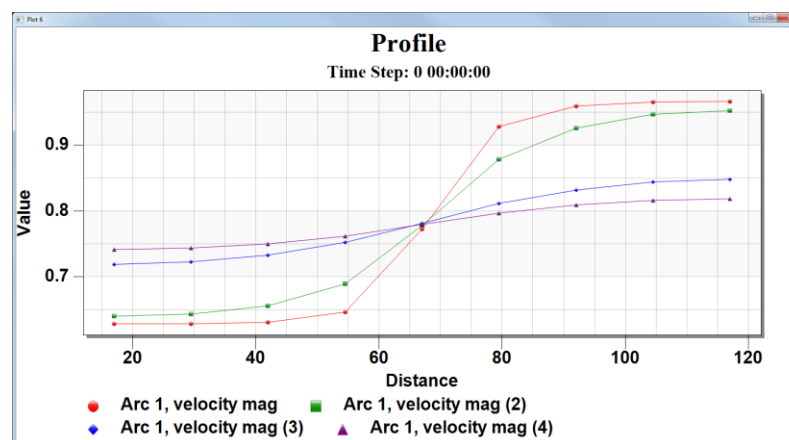

Figure 14 Solution plots for various eddy viscosities
11. Select “ velocity mag”, “ velocity mag (2)”, “ velocity mag (3)”, and “ velocity mag (4)” from the list of datasets that appears.
14. The plot should appear similar to Figure 14. Notice how smaller eddy viscosities allow larger transverse velocity gradients to appear in the solution.